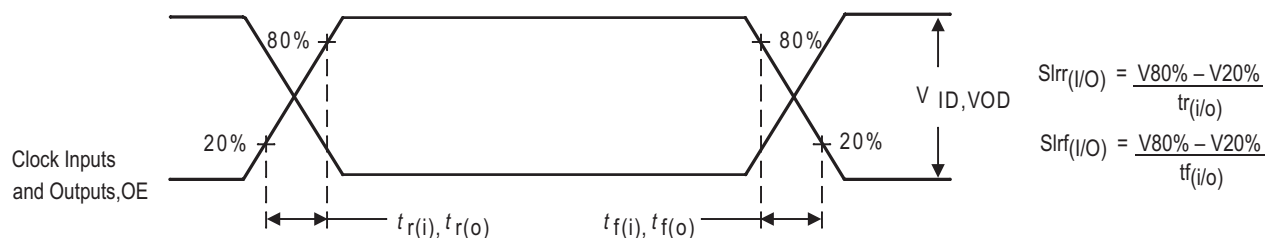

Figure 9. Input and Output Slew Rates
- V_{ID} is the magnitude of the difference between the input level on CK and the input level on $\overline{CK}$, see Figure 9 for definition. The CK and $\overline{CK}$, V_{IH} and V_{IL} limits are used to define the DC low and high levels for the logic detect state.